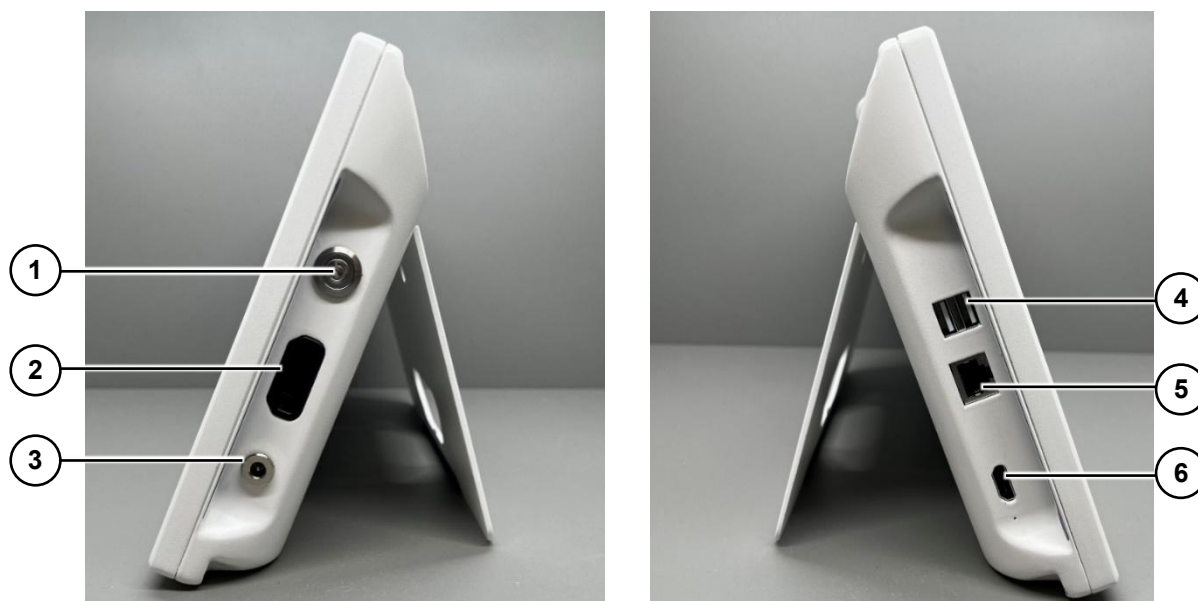

Figure 2 Interfaces of the Portable Image Processor
- 6) Connect the Portable Image Processor to an external display via the HDMI port if needed (see Figure 2 for details of the connection interfaces).